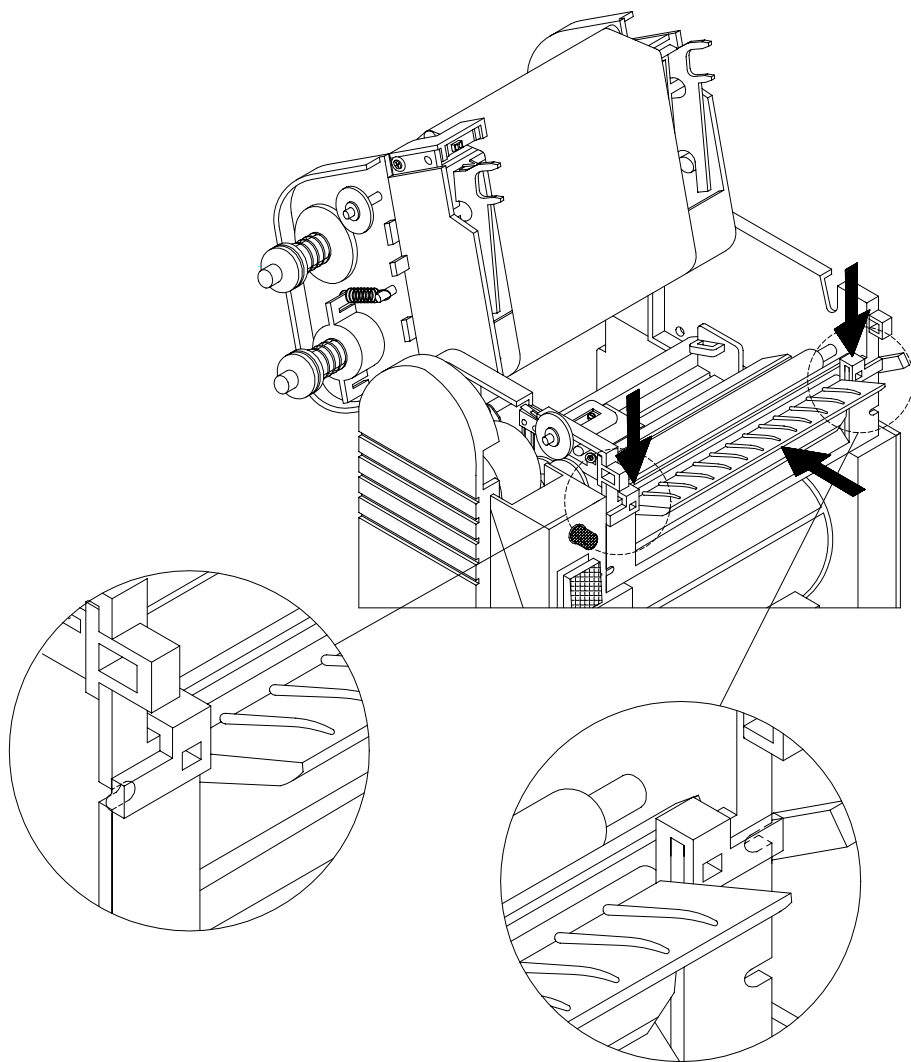

Fig. 2
2. Refer the figure 2, follow the 3-arrow position and direction to gently insert the strip bracket bar until hear the click sound.
3. Refer the figure 2, a part of zoom out to show the strip bracket bar correct position. Please check whether the strip bracket bar was setup correct.